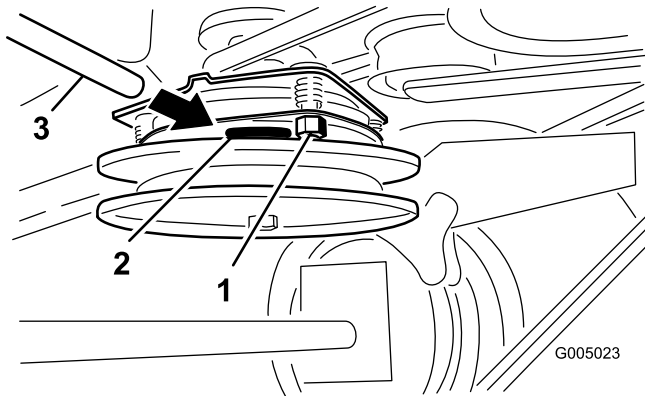

Figure 35
2. Tighten the locknuts until there is slight binding on the feeler gauge but it can be moved easily within the air gap (Figure 35).